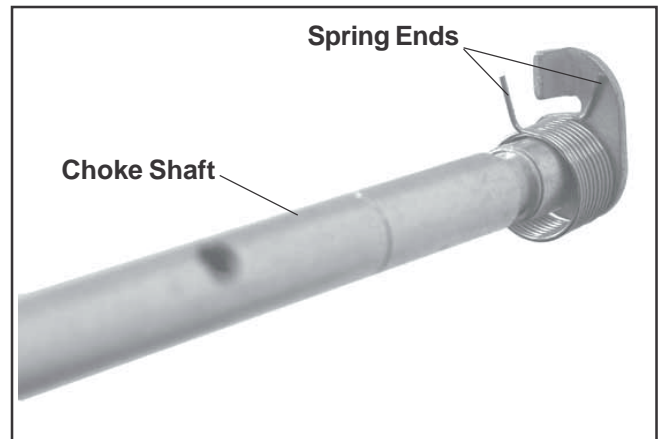

Figure 5-32. Choke Shaft and Spring Details.
9. Install the new return spring onto the new choke shaft, so the outboard leg of the spring is behind the formed stop on the end of the choke shaft. See Figure 5-32.